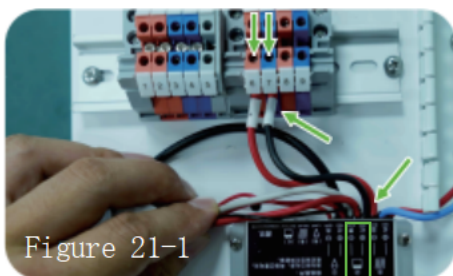

Figure 21-1
21. Solar charge controller battery terminal wiring As shown in Figure 21-1, connect the red/black battery wires of the solar charge controller to terminal block ports 6 (red) and 7 (black), and tighten terminal screws; Figure 21-2 shows the enlarged controller view.